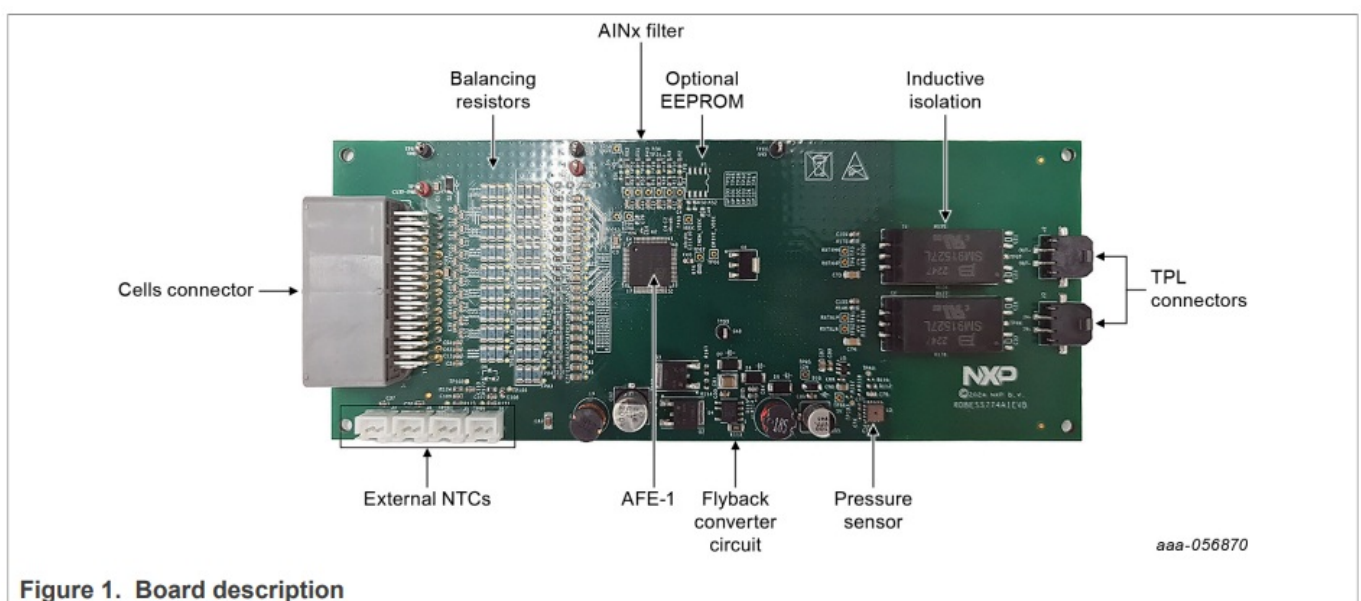

Figure 1. Board description
- Crimp reference for the mate connector: 0436450201 Figure 1 shows the location of connectors on the board.